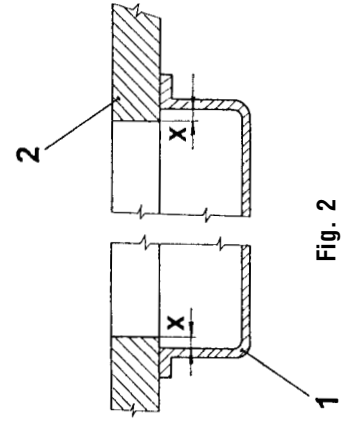
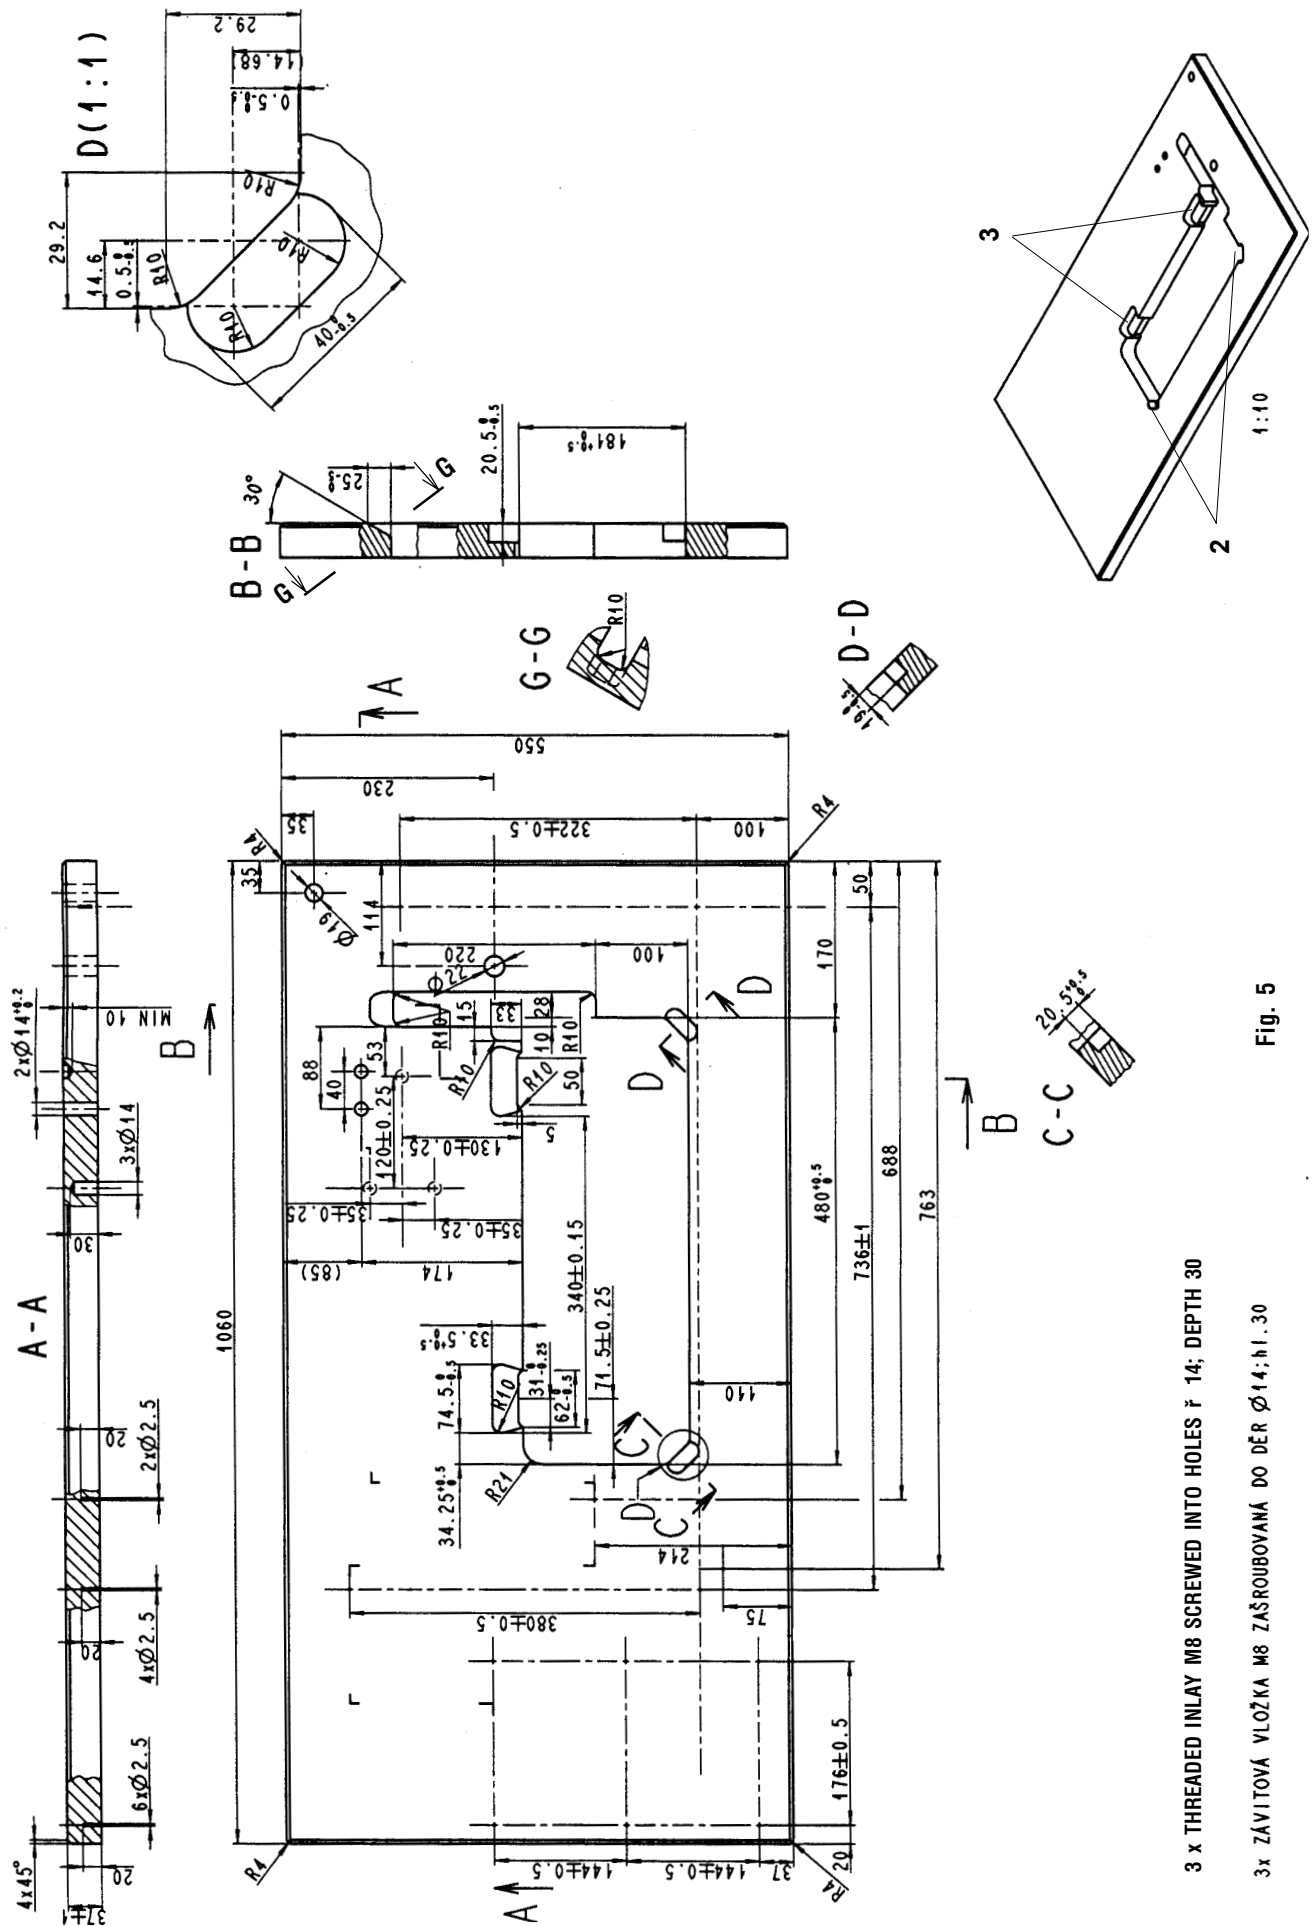

Fig. 2
Fig. 5
For the event when the customer will ensure his own stand table top, its drawing is given on the page 4 (Fig. 5).
5.1 Assembly of stand table top (Fig. 2, 3, 4, 5)
Put the rubber inserts for placing the machine head into the stand table top into the recess (2 and 3, Fig. 5). For better fastening, we recommend to stick on the inserts. When mounting the tray (1, Fig. 2) be sure in maintaining the distance "X" on the whole perimeter of the tray between the interior of the tray and the perimeter of the stand table top recesss (2).